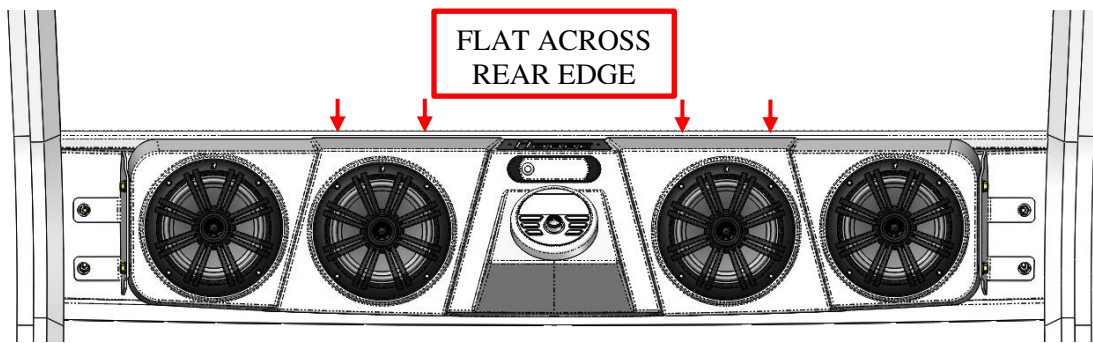

Figure 9: Audio Mini rear edge flat across rear edge of visor.
5. Tighten the 4 visor bolts so that the rear edge of the *Audio Mini* is flat across the rear edge of the visor. See Figure 9.